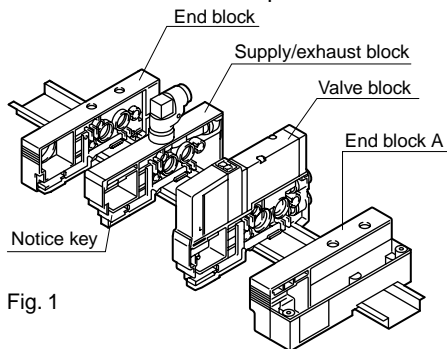

Fig. 1
- (1) Fix the DIN rail.
- (2) Install the required number of end block A, supply/exhaust blocks and valve blocks onto the rail, and connect blocks with connection keys.
- (3) Fix the screw on the end block B side (opposite the wiring block), and fix to the rail. (Fig. 1)